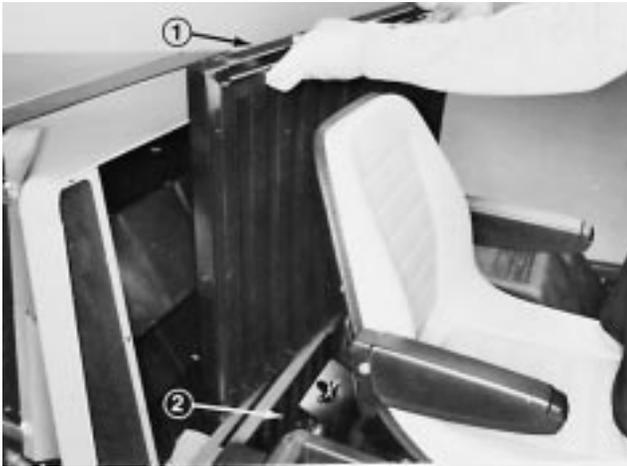

Figure 40
- B. Remove upper and lower grille assemblies (Fig. 40).